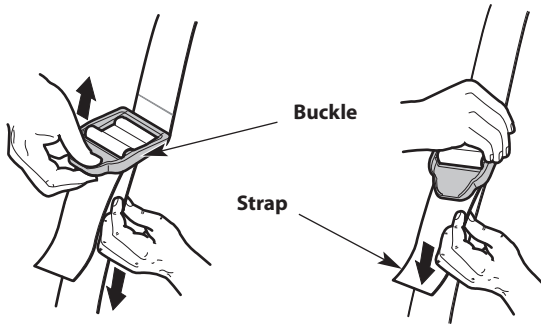

Fig. 11
4. Adjust the shoulder strap to fit the operator (Fig. 11). Pull the buckle up to loosen the shoulder strap. Pull the strap down to tighten the shoulder strap.